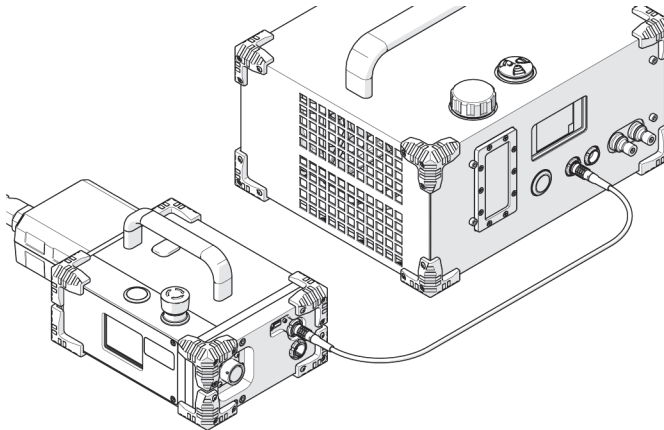

Figure 2-59 Plug auxiliary cable to cooler and power source
1. Align the connector's red dot with the top of the AUX port. Press the connector into either AUX port on the cooler (see Figure 2-59 on page 86).
2. Connect the auxiliary cable to the power controller (see Figure 2-59 on page 86).